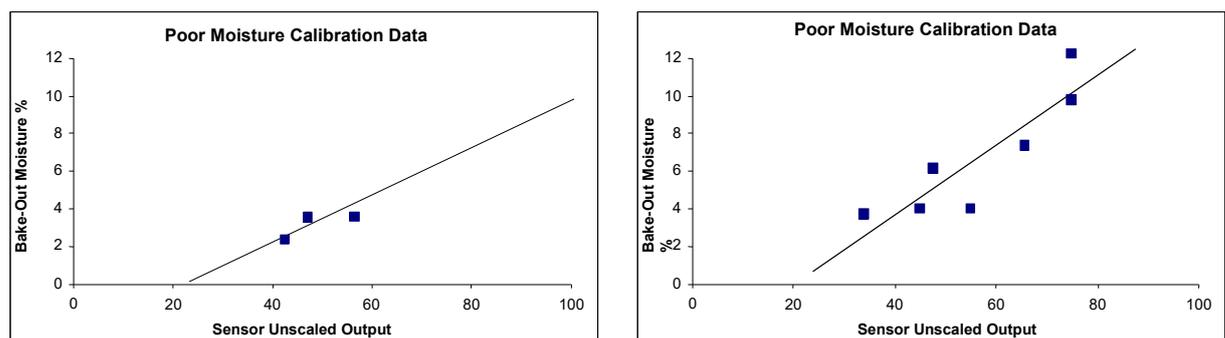

Figure 18: Examples of Poor Material Calibration Points
- Samples are taken close to the same moisture content (Figure 18, left). A good range is necessary.
- There is a large scatter in the readings as shown in the calibration graph Figure 18 (right). This generally implies an unreliable or inconsistent approach to taking samples for oven drying or poor sensor positioning with inadequate material flow over the sensor.